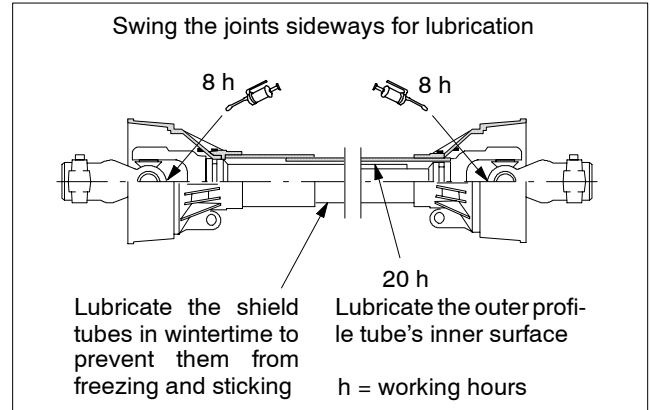

Fig. 15.Lubrication points and intervals for the PTO shaft.
- Lubricate the PTO shaft prior to operation and regularly, as shown in Fig. 15..